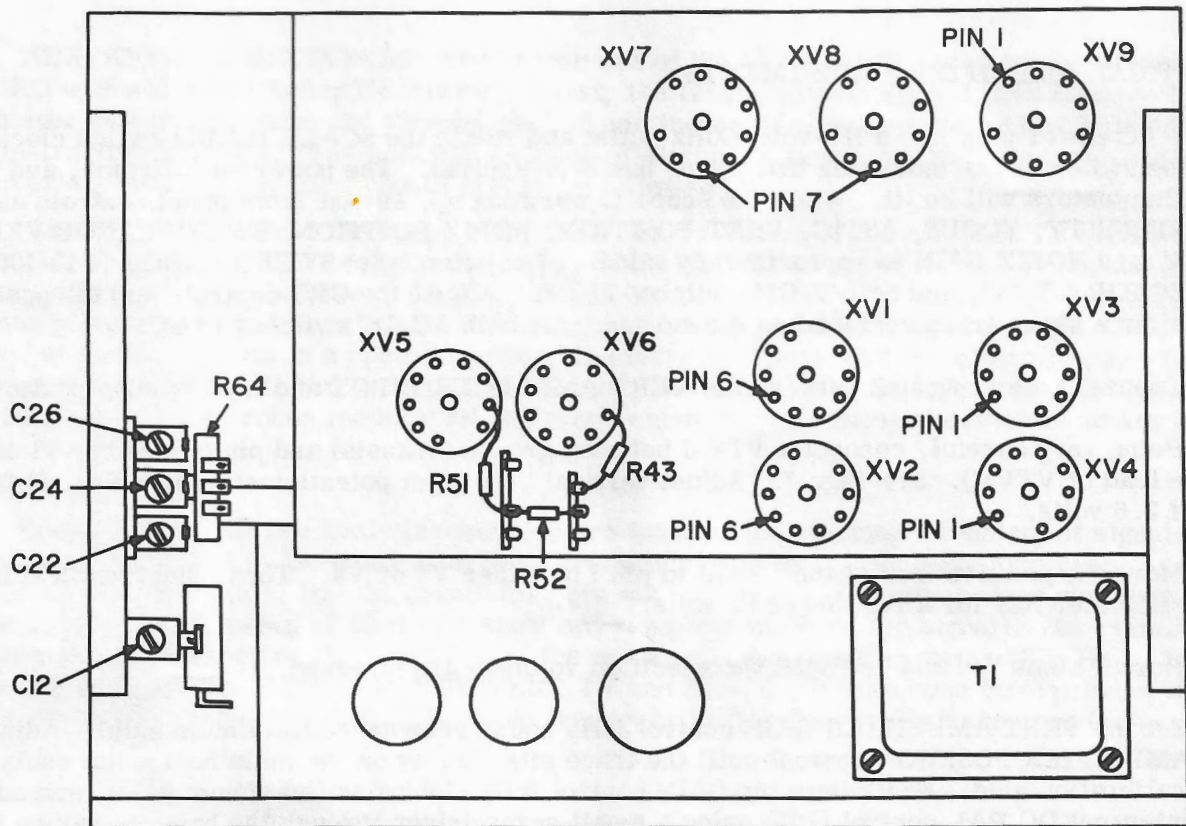

FIGURE 7
- b. Being very careful, connect a VTVM between ground (chassis) and pin 6 of either V1 or V2 (positive lead of VTVM). See Fig. 7. Adjust vertical bias input potentiometer R36 (Fig. 8) for a reading of 2.6 volts.
- b. Very carefully, connect the VTVM between ground (chassis) and pin 7 (Fig. 7) of either V7 or V8 (positive lead of VTVM). Adjust horizontal input bias potentiometer R81 (see Fig. 8) for a reading of 2.5 volts.
d. Set the VERT AMPLIFIER V/CM switch to the 5 position. Remove the end of the jumper from R64 and connect it to pin 1 of V9 (fig. 7). Rotate the GAIN control for minimum gain. If the trace has a "hook", adjust C4 (Fig. 8) for a straight line.
f. Horizontal Channel - Connect a 10-megohm resistor between pin 2 of V6 (Fig. 7) and the end of R43 (68K, 1-watt) that is not connected to pin 1 of V6.
g. Connect a jumper from the junction of R51 and R52 (connected in the cathode circuit of V5B), and shown in Fig. 7 to the HORIZ AMPLIFIER INPUT jack J2. Set both AC-DC switch at AC.
j. With HORIZ AMPLIFIER V/CM at .5, and GAIN at maximum, adjust C26 (see Fig. 7) until the "hook" disappears, and the trace is a straight line.
- f. Adjust the VERT AMPLIFIER V/CM and GAIN controls to obtain a 1/2 to 3/4 screen height series of pulses. Without touching the SWEEP RANGE VERN control, adjust C12 (Fig. 7) until a stationary pattern of two complete cycles are displayed. This indicates an exact 7875 Hz sweep.